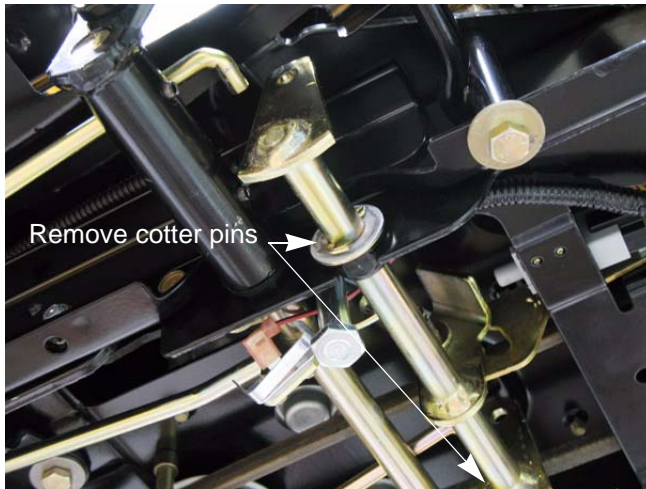

Figure 3.22
- Remove the cotter pin from each end of the brake cross shaft. See Figure 3.22.